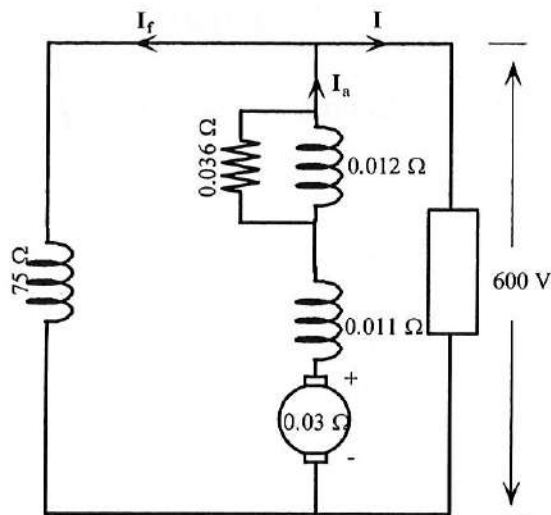

Figure Q5(a) / Rajah Q5(a)
- Q5 (a) The following information is given for a 300 kW, 600 V, long shunt compound generator as shown in Figure Q5(a). Shunt field resistance = 75Ω , armature resistance including brush resistance = 0.03Ω , commutating field winding resistance = 0.011Ω , series field resistance = 0.012Ω , diverter resistor = 0.036Ω . When the machine is delivering full load, calculate the voltage and power generated by the armature.